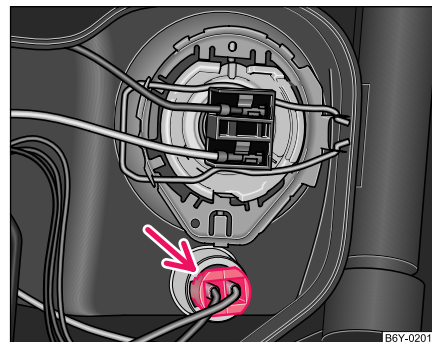

Fig. 156 Structure of the light bulb of the parking light
- Pull the lamp holder with light bulb for the parking light out of the headlight ⇒ fig. 156.